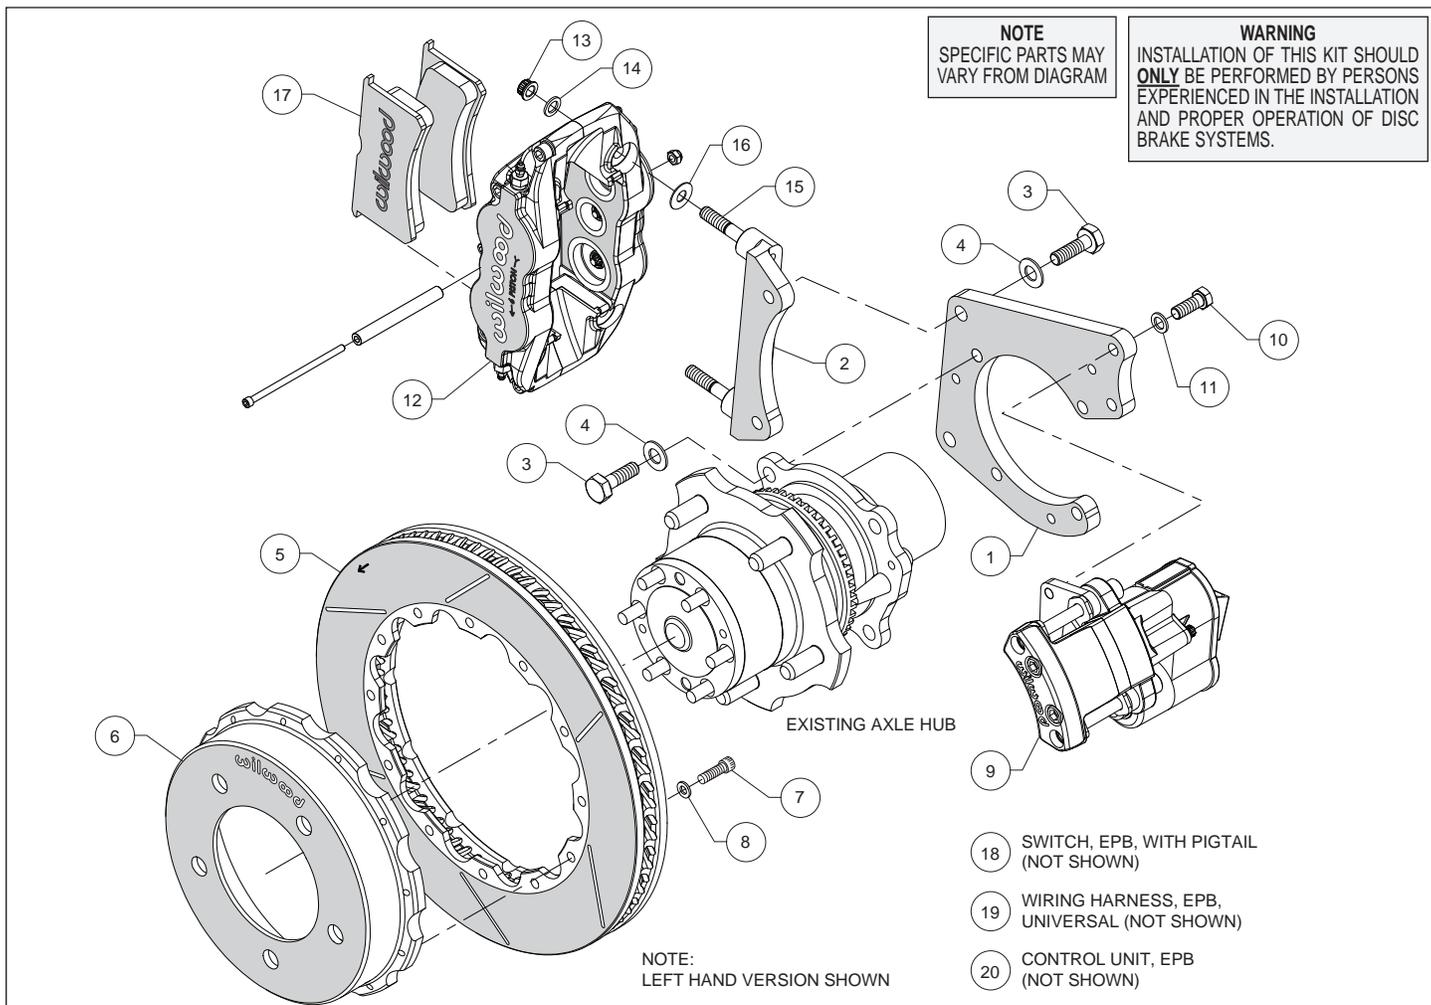
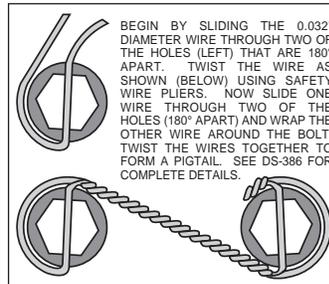

Figure 1. Typical Installation Configuration
Figure 3. Safety Wire Diagram
**Assembly Instructions** (numbers in parenthesis refer to the parts list and Figure 1 on the preceding pages):
- The flat bracket (1) should initially be installed with clean, dry threads on the mounting bolts. Orient the bracket as shown in Figure 1, and Photo 1, and install using bolts (3) and washers (4). Temporarily tighten the mounting bolts. **NOTE: The bracket must fit squarely against the axle flange.** Inspect for interference from casting irregularities, machining ridges, burrs, etc. Remove the bracket mounting bolts one at a time, apply red *Loctite*® 271 to the threads, and torque to 60 ft-lbs.
- The caliper mount bracket (2) should initially be installed with clean, dry threads on the mounting bolts. Orient the bracket as shown in Figure 1 and Photo 2, and install using mount bolts (3) and washers (4). Temporarily tighten the mounting bolts. Inspect for interference from casting irregularities, etc. Remove the bracket mounting bolts one at a time, apply red *Loctite*® 271 to the threads, and torque to 60 ft-lbs.
- Orient the rotor (5) and the hat (6) as shown in Figure 1 and Photo 3. Attach rotor to hat using bolts (7) and washers (8). Using an alternating sequence, apply red *Loctite*® 271 to the threads, and torque to 155 **in-lbs**. Safety wire bolts using standard 0.032 inch diameter stainless steel safety wire as shown in Figure 3. Please refer to Wilwood's data sheet DS-386 (available at [www.wilwood.com/Pdf/DataSheets/ds386.pdf](http://www.wilwood.com/Pdf/DataSheets/ds386.pdf)) for complete safety wire installation instructions.
- NOTE: This kit contains distinct right and left hand calipers that must be mounted in a specific direction, as described below.** Lubricate the caliper mounting studs (15) with lightweight oil. Initially place one .035" thick shim (16) on each stud between the caliper and the bracket, as shown in Figure 1 and Photo 5. Mount the caliper (12) onto the bracket (2) using lock nuts (13) and washers (14), Figure 1. Temporarily tighten the lock nuts. Ensure that the caliper is mounted so the largest pistons are at the rotor exit end of the caliper, in relation to the direction of the rotor.
- Remove the caliper center bridge pad retainer bolt, nut, and tube from the caliper. Insert the brake pads (17) into the caliper, with the friction material facing the rotor, as shown in Photo 6. Check that the top of the brake pad is flush with the outside diameter of the rotor, Photo 7. If not, adjust by adding or subtracting shims (16) between the caliper and the bracket. After the caliper pad height is set, torque the caliper lock nuts (13) to 30 ft-lb. Secure the brake pads in place with the center bridge pad retainer tube, bolt, and locknut, Photo 8. The locknut should be snug without play in the bolt or tube. Be cautious not to over tighten.
- Mount the EPB caliper (9) onto the flat bracket (1) using bolts (10) and washers (11), as shown in Figure 1 and Photo 9. Apply red *Loctite*® 271 to bolt threads, and torque to 30 ft-lb.